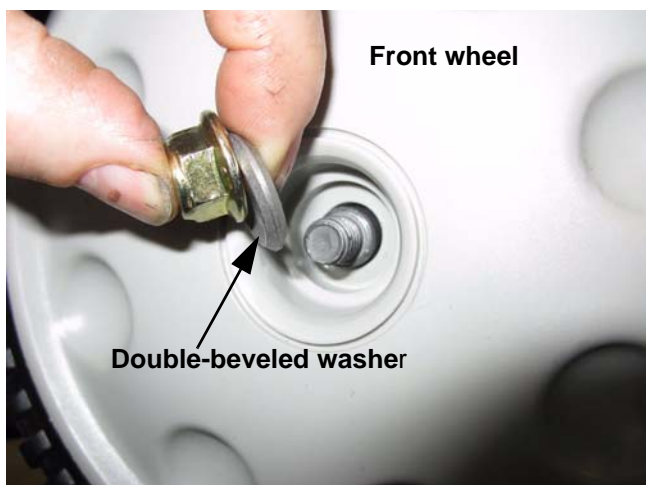

Figure 4.18
5. The front wheels may have special double-beveled washers between the wheel and the nut. See Figure 4.18.